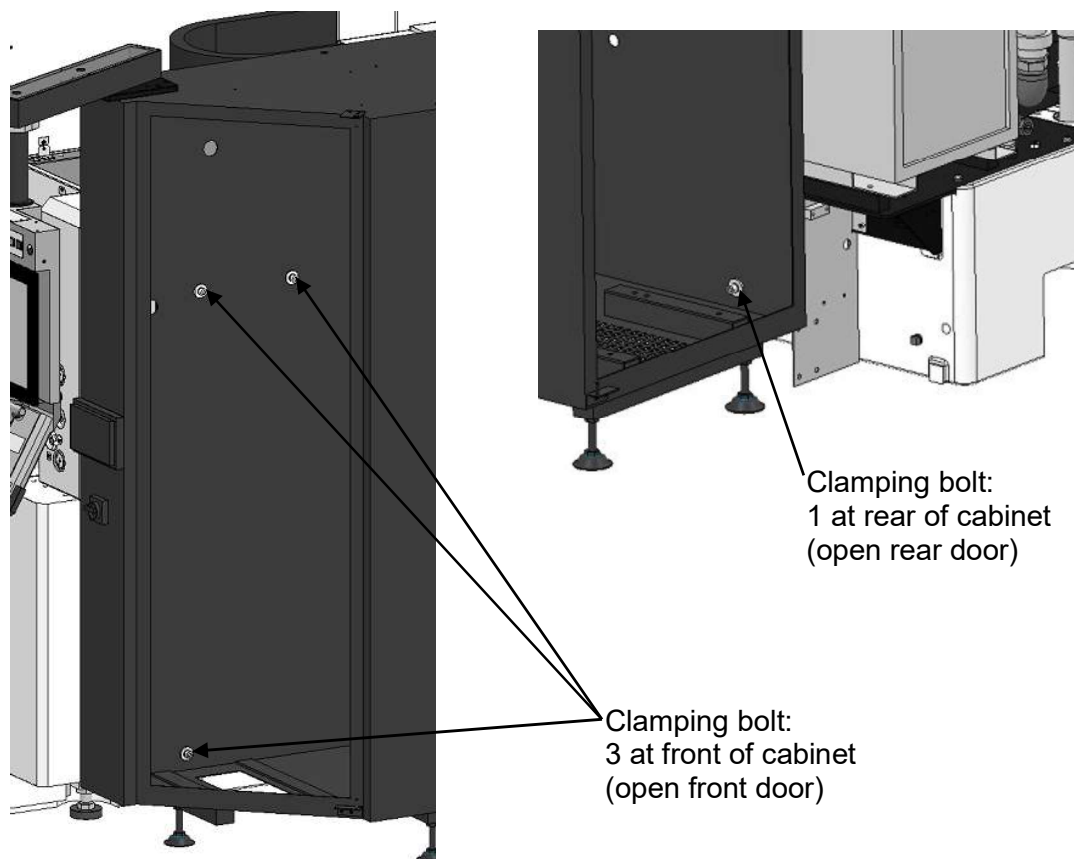
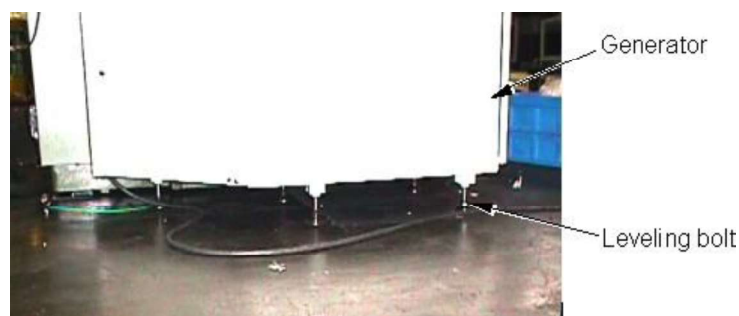

Fig. 2.1-5 Clamping bolts in generator cabinet
Fig. 2.1-6 Leveling bolts on generator
- (7) Clamp the generator so that it rides on the chin of the bracket mounted to the machine bed. Open the doors on the generator and tighten four socket head bolts. (Fig.2.1-5)
- (8) Make leveling bolts (4 pcs) on the generator floating. (Fig.2.1-6)
- (1) Install the machine on the place that satisfies the requirements in 1.1 Installation Location, and insert the leveling plates. (Fig.2.1-6, 2.1-8, 2.1-9)
- (2) Adjust the leveling bolts (4 pcs) on the generator properly. (Fig.2.1-6).
- (3) Open the doors on the generator, and loosen four locking bolts that lock the machine and generator. (Fig.2.1-5)
- (4) Rotate additionally the leveling bolts on the generator, so that the generator floats up about 5 mm from the chin of bed. (Fig.2.1-6)
- (5) Adjust the machine leveling. In leveling the machine, the chin of bed may interfere with the generator. In such a case, rotate further the leveling bolts on the generator to raise the generator above the chin of bed.
- (6) Confirm that the clamping bolts in the generator are loose. (Fig.2.1-5)